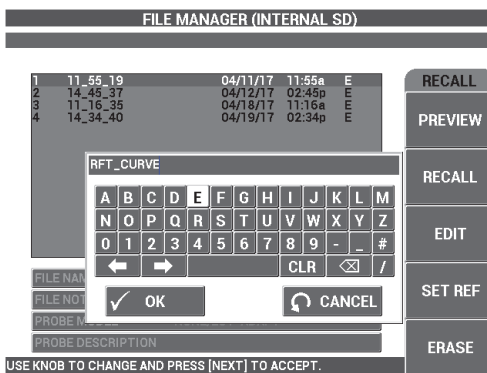

Figure 5-218 Renaming the file
5. Use the text editor to rename the file as follows: **RFT_CURVE** (see Figure 5-218 on page 283). (Use the knob to select characters and the FULL NEXT key () to confirm each character.)